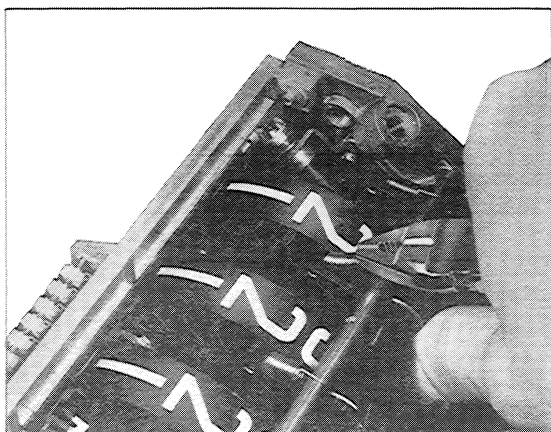

Figure 24. Anti-Topping Finger Spring Installation.
- Install the five anti-topping finger springs between the anti-topping fingers and the stop shaft. See Figure 24.